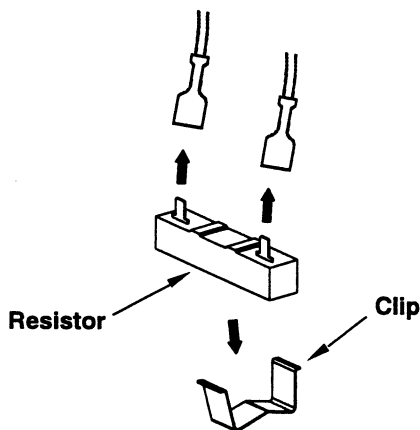

Figure 5-26. Resistor
6. Remove the metal clip securing the resistor. Figure 5-26.